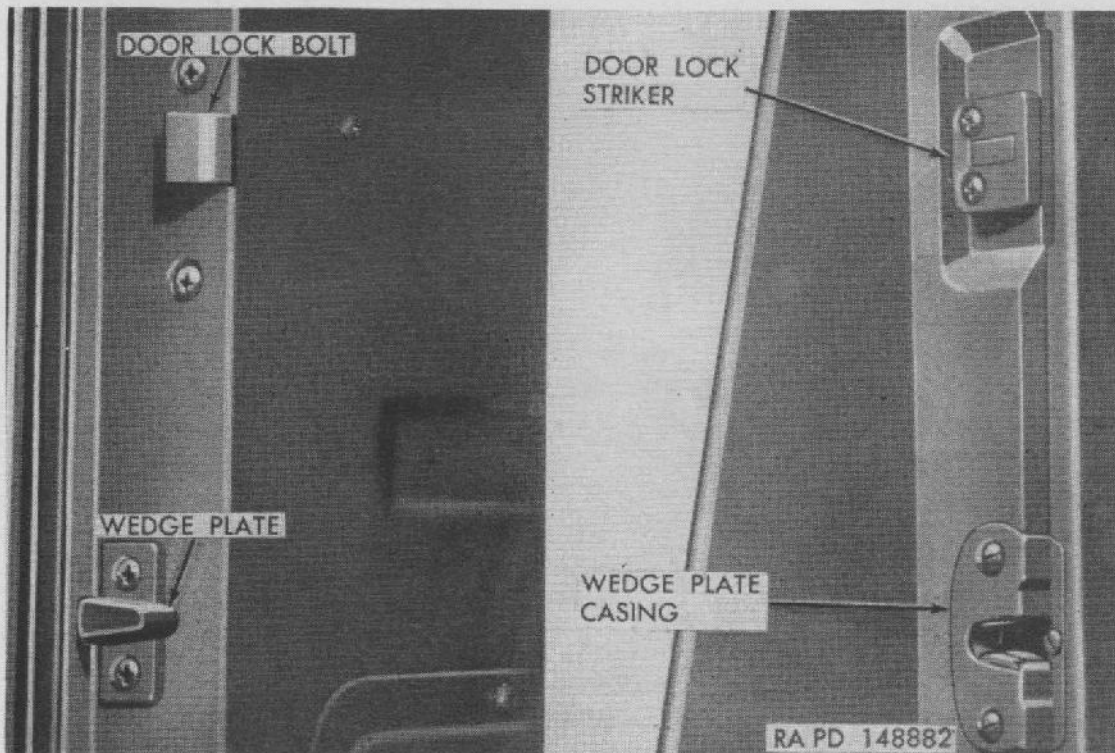

Figure 177. Door striker and wedge plate.
b. DOOR ADJUSTMENTS. Provision is made for adjusting door both horizontally and vertically in opening. Door lock striker and door wedge plate (fig. 177) are also adjustable.
(3) *Door lock striker adjustment.* Loosen screws which attach striker plate to cab post (fig. 177) and move striker in or out, as required. Tighten screws firmly, then close door to determine if looseness, rattling, or improper latching have been corrected.
(4) *Door wedge plate adjustment.* To move wedge plate on door to center in casing on cab lock post, loosen wedge plate screws (fig. 177). Move wedge plate up or down, as required; then tighten screws firmly. Close and open